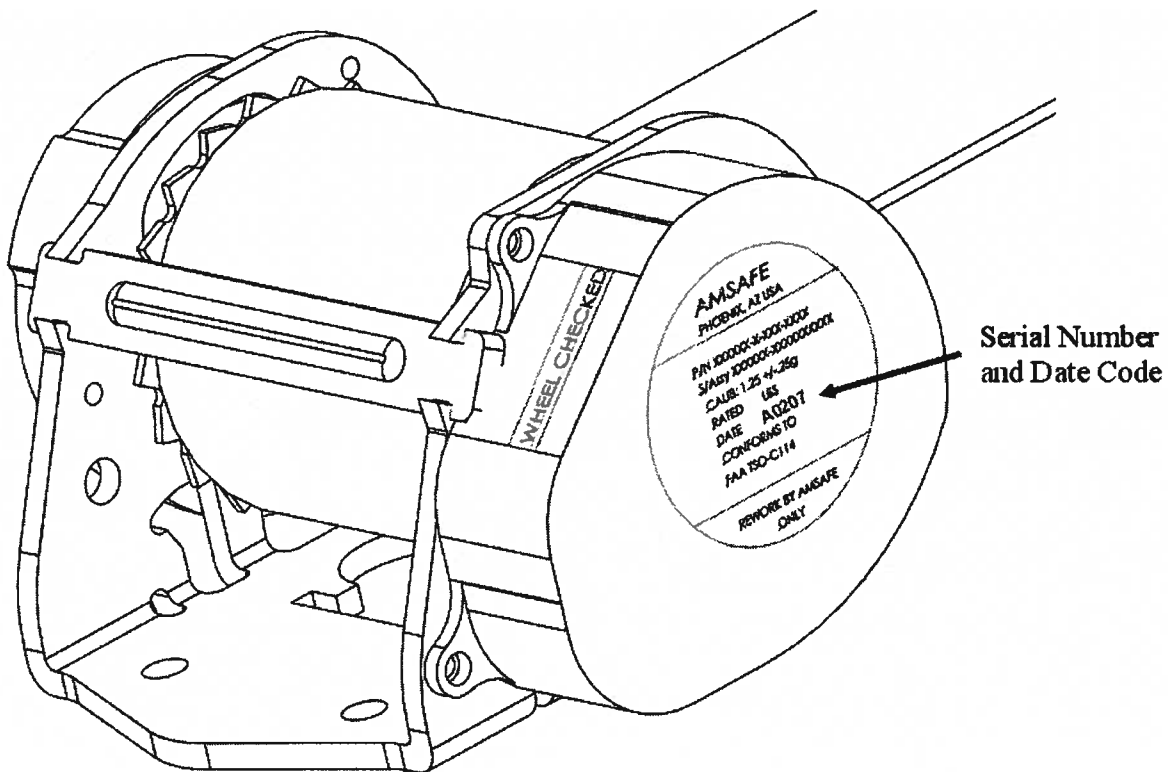

Figure 1 – Serial Number and Date Code Information
2. Date Code Inspection. The date code can be found on the inertia reel identification label see Figure 1. For access to the inertia reel identification label please refer to the applicable seat manufactures instruction defined in their CMM.